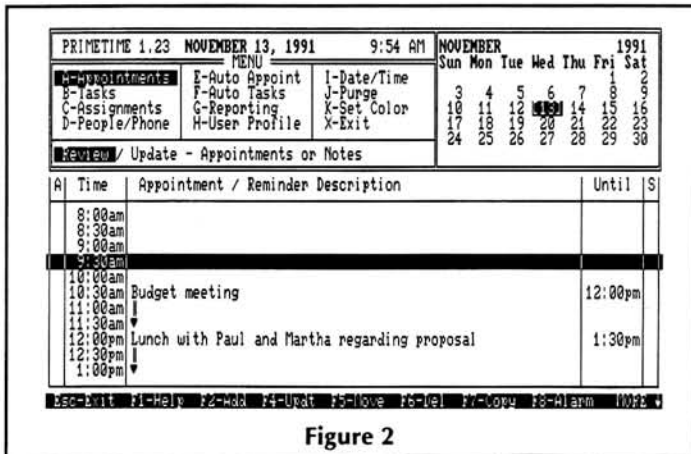

Figure 2
2. Press A to select appointments, then R for review, to show the appointment window for that day across the lower half of the screen (Figure 2). Notice that there is a budget meeting between 10:30 and noon, then a lunch meeting until 1:30. Use the up and down arrow keys to move through the schedule.